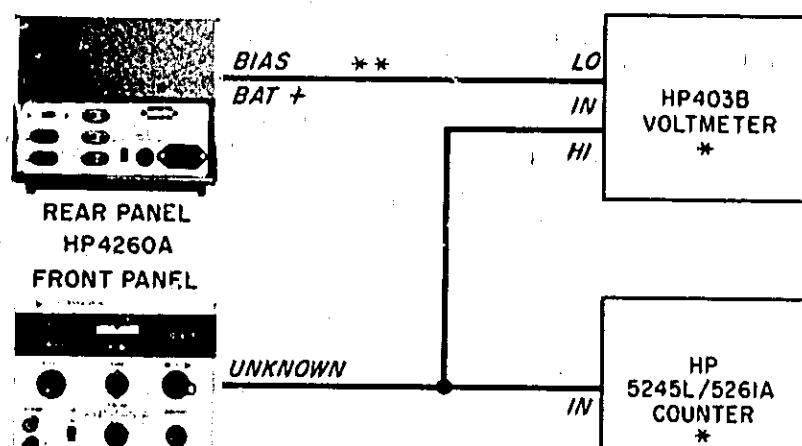

Figure 5-2. Internal Oscillator Check
- a. Connect equipment as shown in Figure 5-2.